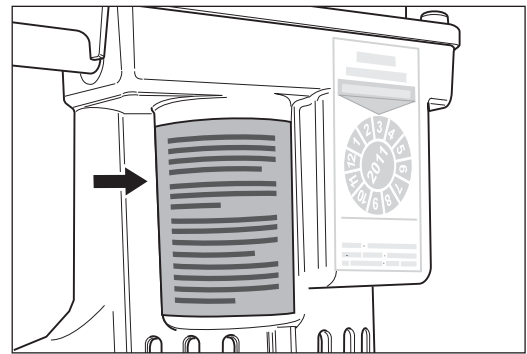

Fig. 15 Note the warning on the motor housing!
- Note the warning on the motor housing (Fig. 15)!